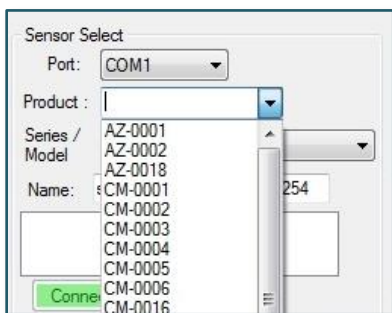
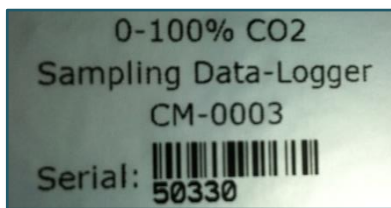

Figure 10: Product dropdown menu – P/N list
Figure 11: Product label example
- **Product** – select your CO2Meter product part number from the dropdown menu as shown in **Figure 10**. You can find this number on the product label, typically located on the back of our meters. **Figure 11** below shows a product label for a 100% Data-Logger meter with part number CM-0003. Alternatively, you may select the sensor **Series** and **Model** from the individual fields below.